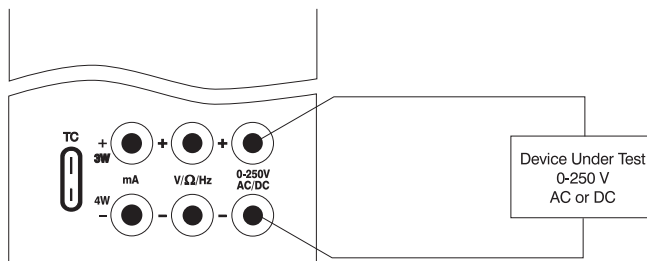

Figure 1.
2. Connect the device to be measured as shown in Figure 1.
When measuring high voltage be sure to use proper connections as shown in Figure 1. Failure to do so will cause serious damage to the calibrator.